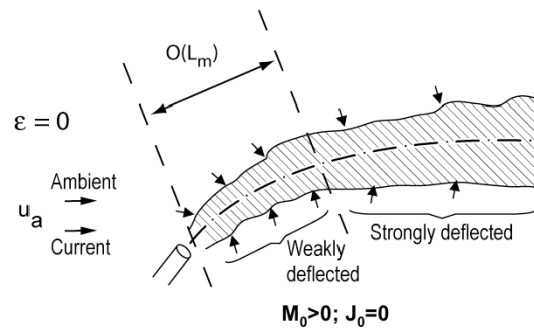

Figure 2-3: Pure Jet in Uniform Crossflow
- Figure 2-3 shows "**pure jet**" or "**momentum jet**" in crossflow